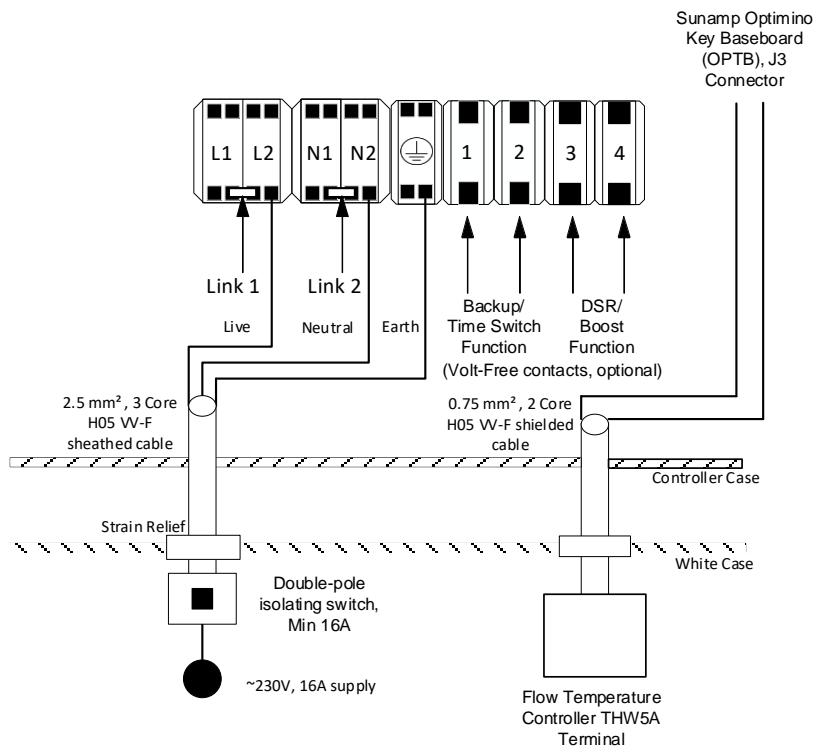

Figure MC.1 - Thermino xPlus with MC01 Optimino key
- Thermino xPlus with the “MC01” & “MC02” Optimino keys (D0084 – Section 6.4.2 for wiring instructions & Figures MC.1 & MC.2 below)
the control box housing through the hole available. Secure the cables in terminals J3 on the Optimino Board; please see Figures MC.1 & MC.2 below for reference.